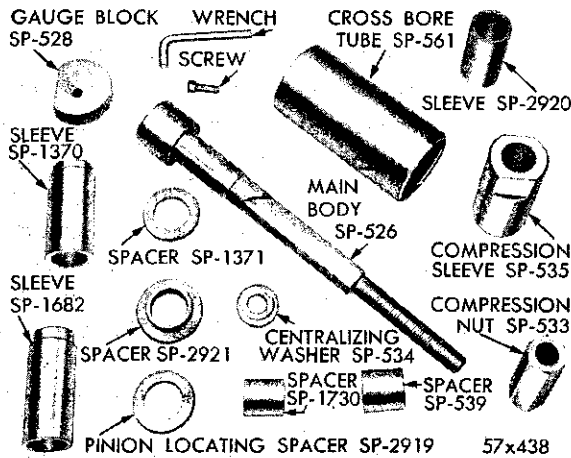
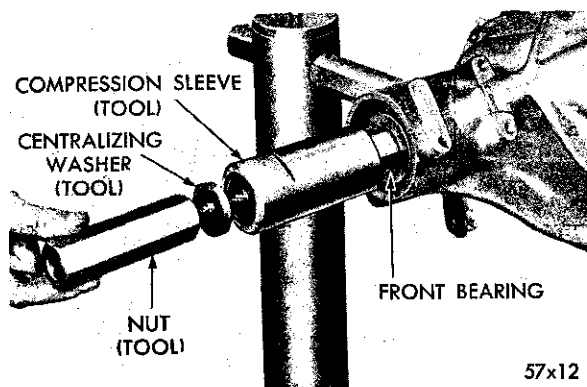

Fig. 15—Tool Set C-758
Fig. 16—Compression Sleeve and Centralizing Washer
(1) Place the bearing cups squarely in position. Assemble Tool C-758 (Fig. 15) by placing spacer SP-2919 (on Chrysler Newport C-1) followed by the rear pinion bearing cone over the main screw of the tool and inserting it into the carrier from the gear side (Fig. 16).
(2) Place the front pinion bearing over the main screw followed by compression sleeve SP-535, centralizing washer SP-534, and main screw nut SP-533. Hold the compression sleeve with the companion